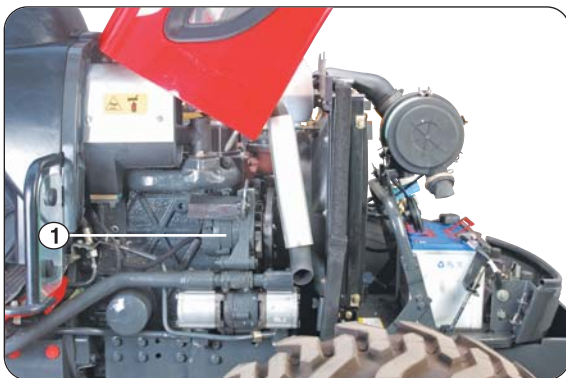

Fig. 4
- e. Remove the four capscrews which secure the fan to the pulley hub. To remove these capscrews work from the right hand side of the machine and ensure that each capscrew is rotated up to the 12 o'clock position as it is being removed. (See illust / Fig.4).